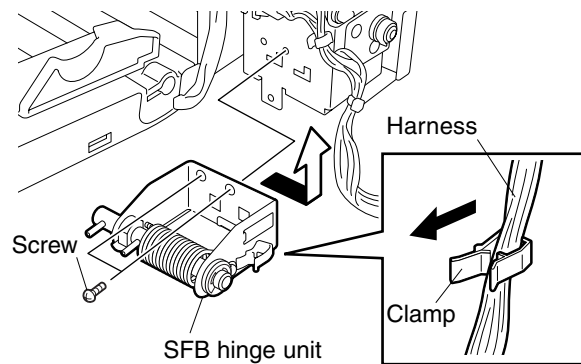

Fig. 6-4
3. Remove SFB hinge unit. (See Fig. 6-4)